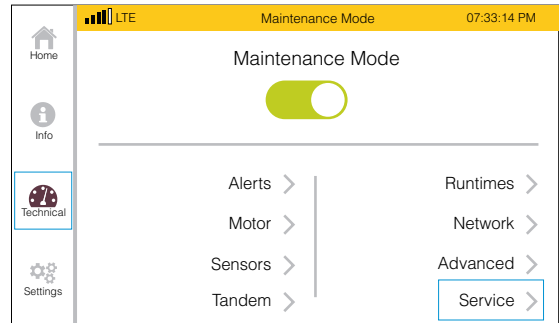

FIGURE 65. PRESS SERVICE
7. On the Technical screen, press **SERVICE** > (FIGURE 65).